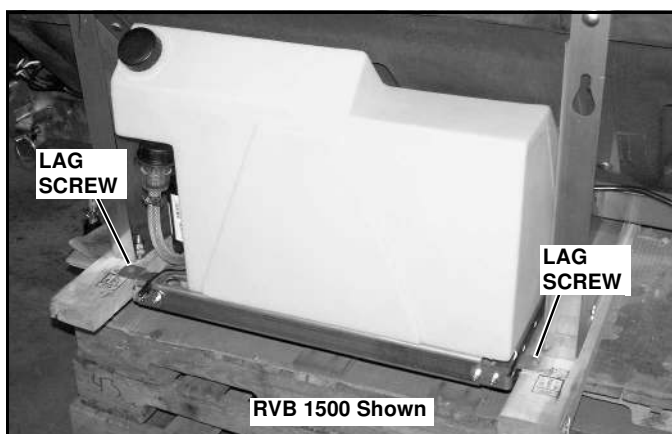

Figure 1-5
12. Screw the hex lag screws into the wooden runners of the spreader. (See Figure 1-5)